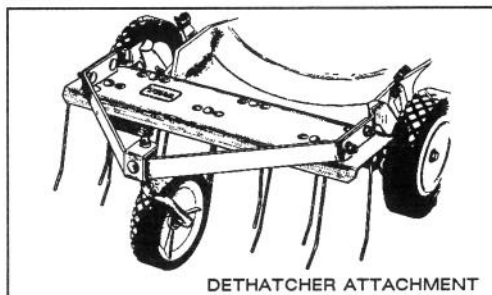

Figure 32
2. Dethatcher Kit, Model No. 59131 — Installs in minutes. Front mounted for easy maneuverability. Spring tines loosen thatch for clean vacuuming into grass bag (Fig. 32) and convenient disposal.